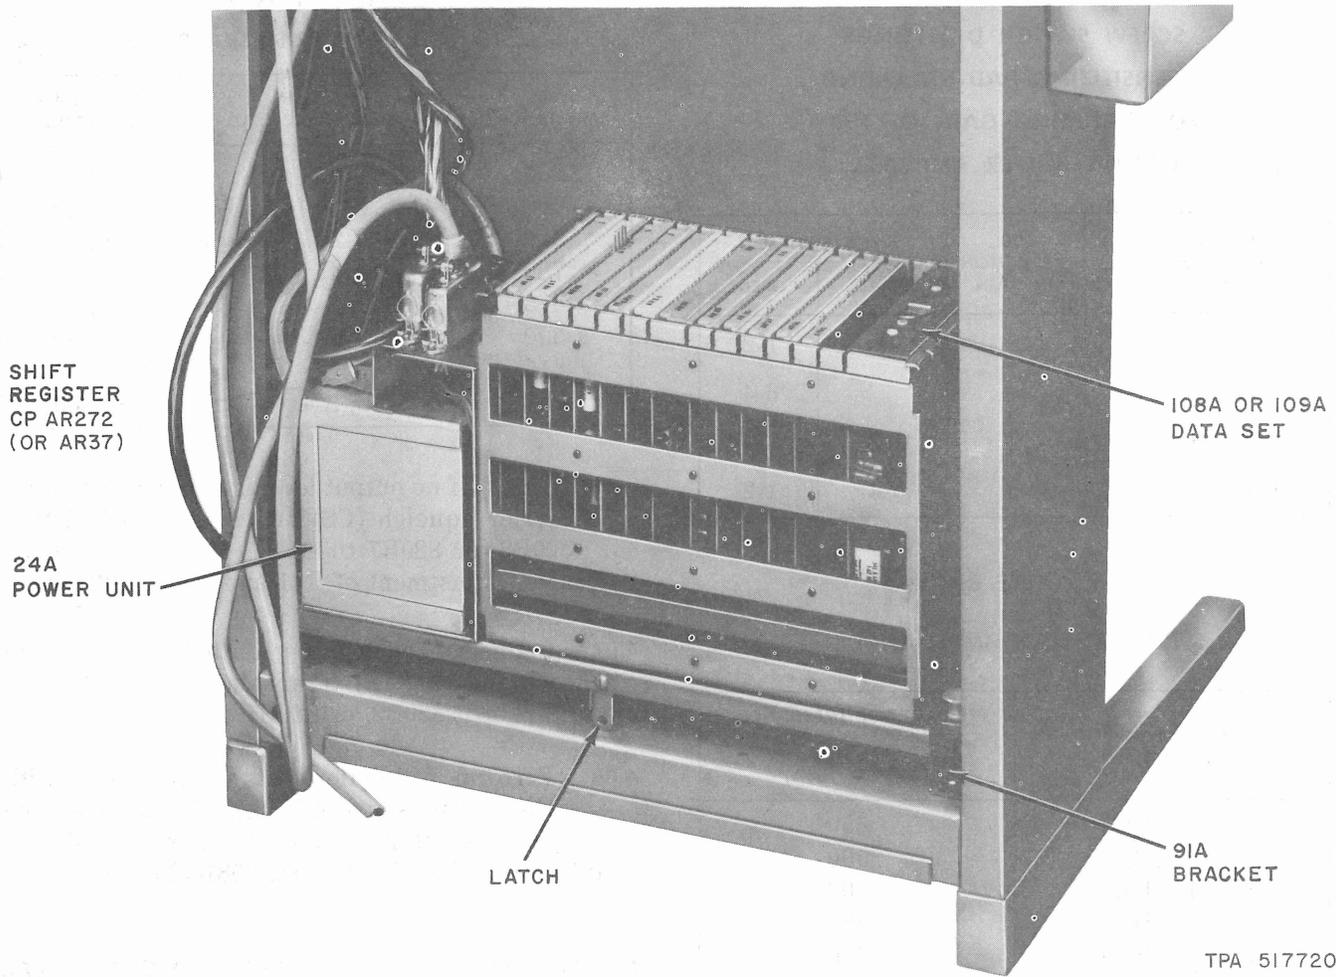

Fig. 3--Mounting Arrangement for DAS 820B-Type in a 33-Type TTY
- (1) Rotate latch counterclockwise (Fig. 3). This allows DAS 820B2 or 820B7 to pivot on the 91A bracket.